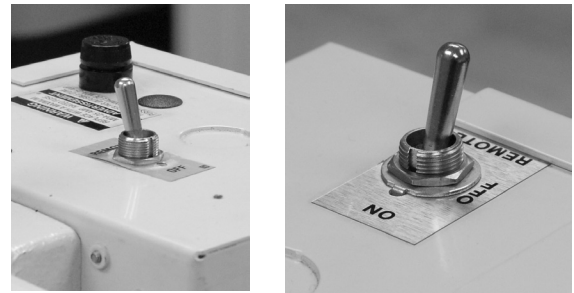

Figure 5. Motor Control Switches
2. See Figure 5. Place the motor control switch in the ON position or the REMOTE position, if applicable.